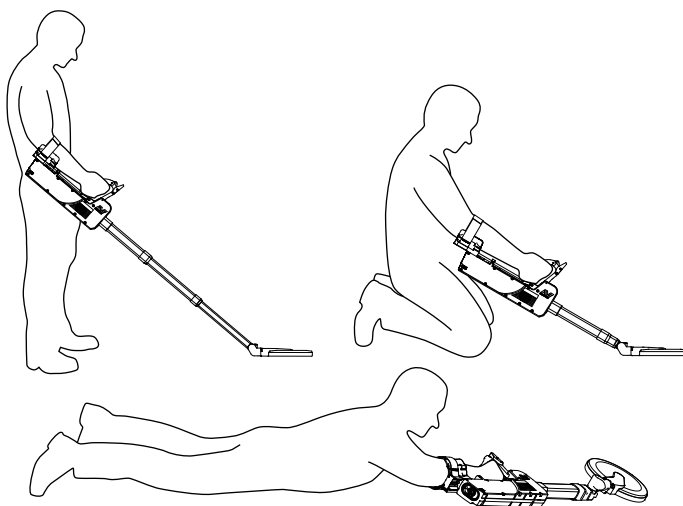

Figure 7: *F3 Compact in the standing, kneeling or prone positions*
- f. Extend the Lower and Middle Shafts to suit the selected demining position as shown in Figure 7.